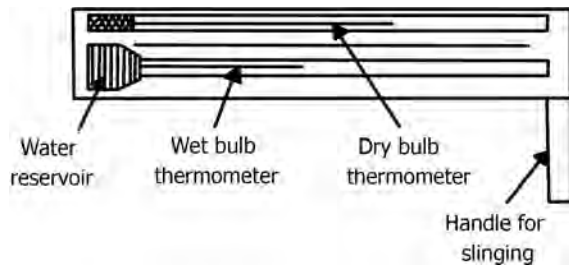

FIGURE 18.13 Sling hygrometer.
- Sling psychrometer, illustrated in Figure 18.13, is whirled to give the desired air velocity across the thermometer bulb.